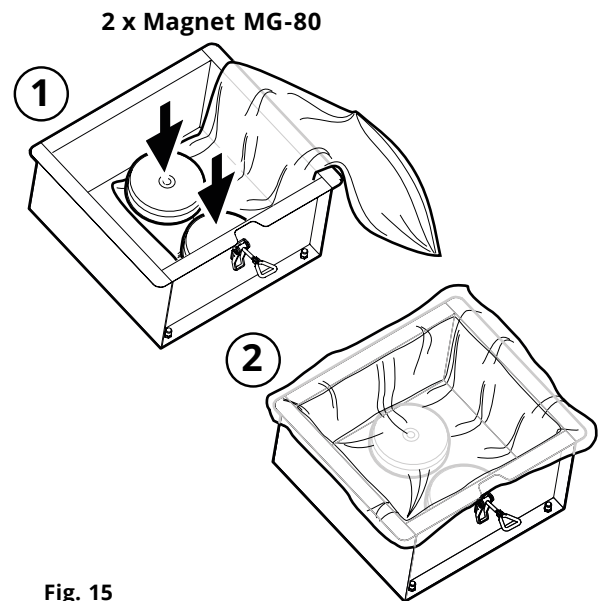

Fig. 15
6. Carefully fit a new Dust bag CFE PSW3 in the dust collector (**Fig. 15**).